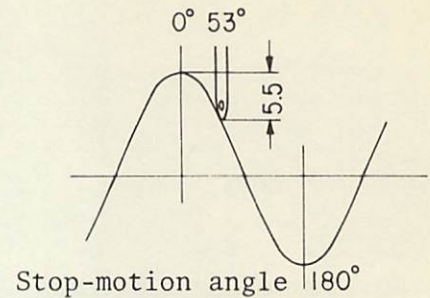

Fig.1
- \* At the point 5.5mm( $7/32''$ ) lower than the highest point of the needle bar. (Fig.1)